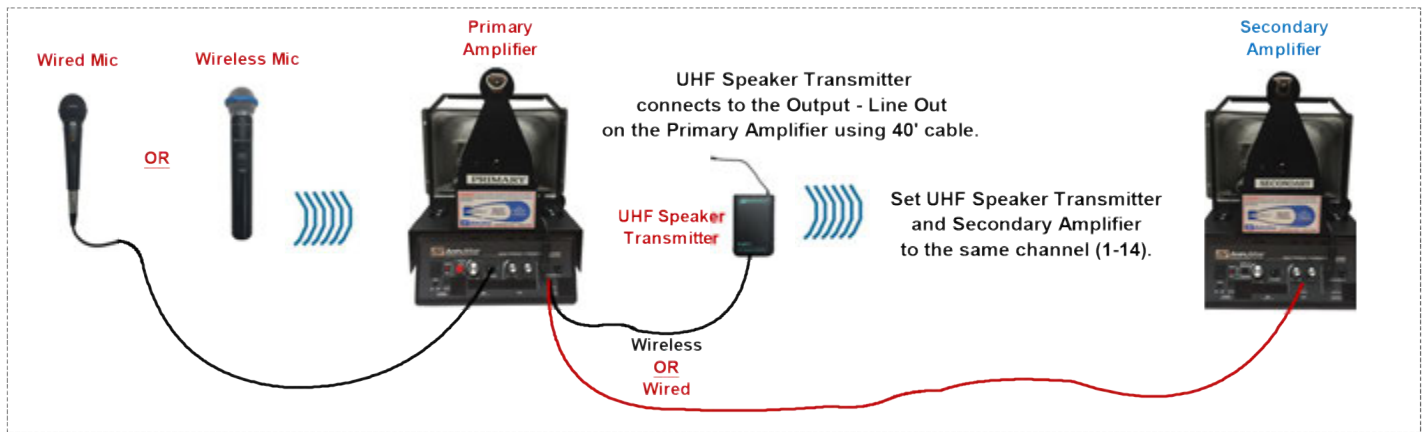

Figure 3
2. Wireless Option *(See Figure 3)*
3. Wired microphone option *(See Figure 3)*